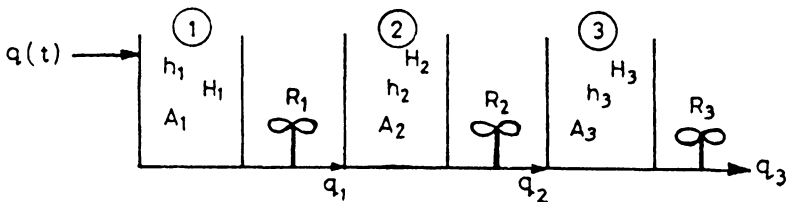

Fig. 1.28
**1.46. Interacting systems :** An example is arranging the tanks as shown in Fig. 1.28, side by side.